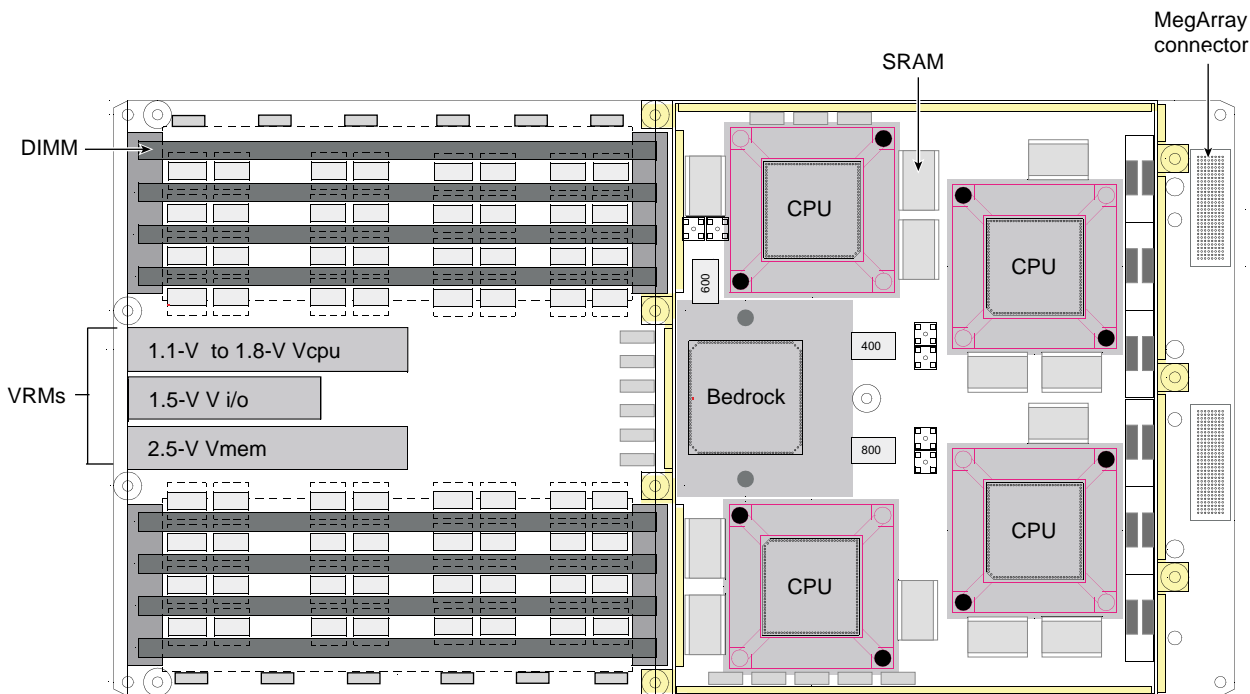

Figure 3-3 IP53 Node Board
- Two or four MIPS RISC processors (labeled CPU in Figure 3-3). Each processor has a secondary L2 cache.
- Primary and secondary (L2) cache. (The primary cache is internal to the processor. The L2 cache is labeled SRAM in Figure 3-3.)